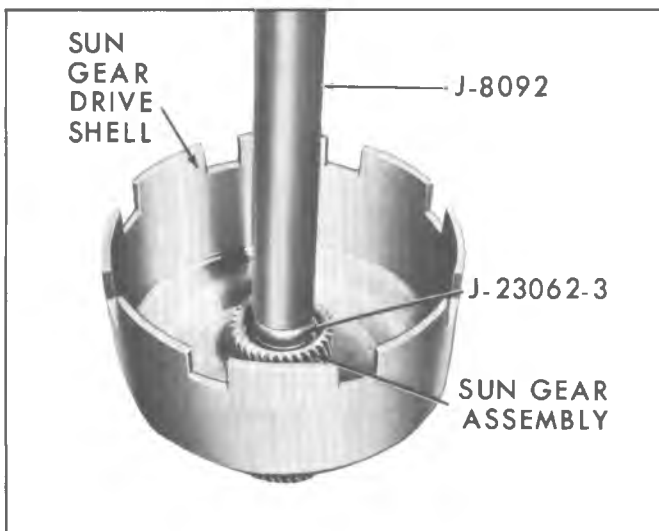

Fig. 100M--Installing Sun Gear Bushings
With sun gear properly supported, remove two (2) sun gear bushing using tool J-23062-3 and drive handle J-8092 with extension J-21465-13. Using tool J-23062-3 and drive handle J-8092, install sun gear bushings to .010" below surface at either end (fig. 100M).